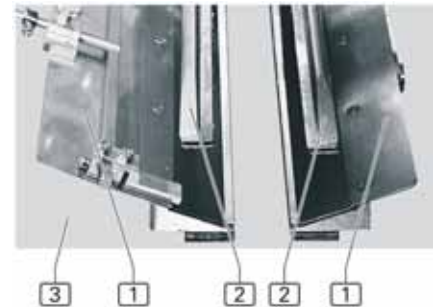

fig. 2
**fig. 2:** Clamp and flap clamp take over the transportation of the workpieces from the starting position to the sewing unit, and from there to the stacking position. For this purpose the clamp sinks with both clamp arms **1** onto the workpiece and pulls it over guide plate **3** to the sewing unit. At the same time the flap clamp presses down the flaps on the clamp arms with the two bars **2**.